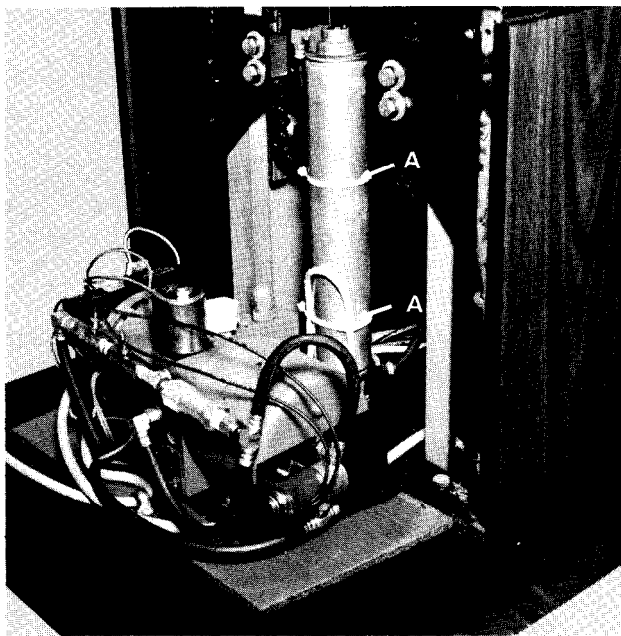

Fig. 26
- 12) When changing a cylinder, notice how the wires, hose fittings and nylon ties are positioned so they may be replaced in exactly the same way or damage to the wires and hoses may result in electrical shock or hose leakage. (See Fig. 26).
- 13) Remove "2" large nylon ties from defective cylinder, (Item A, Fig. 26).
20) Install large nylon ties to cylinder, 2 places, (Item A, Fig. 26). **NOTE:** Replacement ties are included in cylinder replacement kits.
- 1) When changing a cylinder, notice how the wires, hose fittings and nylon ties are positioned so they may be replaced in exactly the same way or damage to the wires and hoses may result in electrical shock or hose leakage. See Fig. 26.